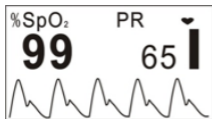
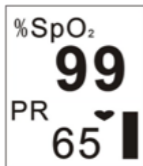
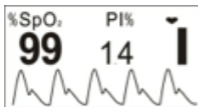
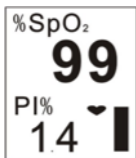

Figure 4
Figure 5
Figure 6
Figure 7
4. Next enter into data display screen (as shown in Figure 4). User can read the values and view the waveform from display screen.
5. When the display is shown as Figure 4, press Display Key to switch display screen.
- Press Display Key once, display screen (as shown in Figure 4) will be flipped 180°.
- Press Display Key twice, display screen will be changed as Figure 5.
- Press Display Key three times, display screen (as shown in Figure 5) will be flipped 180°.
- Press Display Key four times, display screen will back to the screen as shown in Figure 4.
- Press Display Key circularly, display screen will be switched between the two screens (as shown in Figure 4 and Figure 5), and four directions display alternately.
6. Longtime press Display Key (about 2 seconds), display screen will be shown as Figure 6. Differences between Figure 6 and Figure 4 are as follows
- In Figure 4, SpO₂ and pulse rate are being monitored and displayed on the screen.
- In Figure 6, SpO₂ and perfusion index are being monitored and displayed on the screen.
- When the screen displays as shown in Figure 6, press Display Key circularly, the display screen will be switched between the two screens (as shown in Figure 6 and Figure 7), and four directions display alternately.
- Display screen (as shown in Figure 6 or Figure 7) will return to the screen as shown in Figure 4 or Figure 5 if without operation in 10 seconds